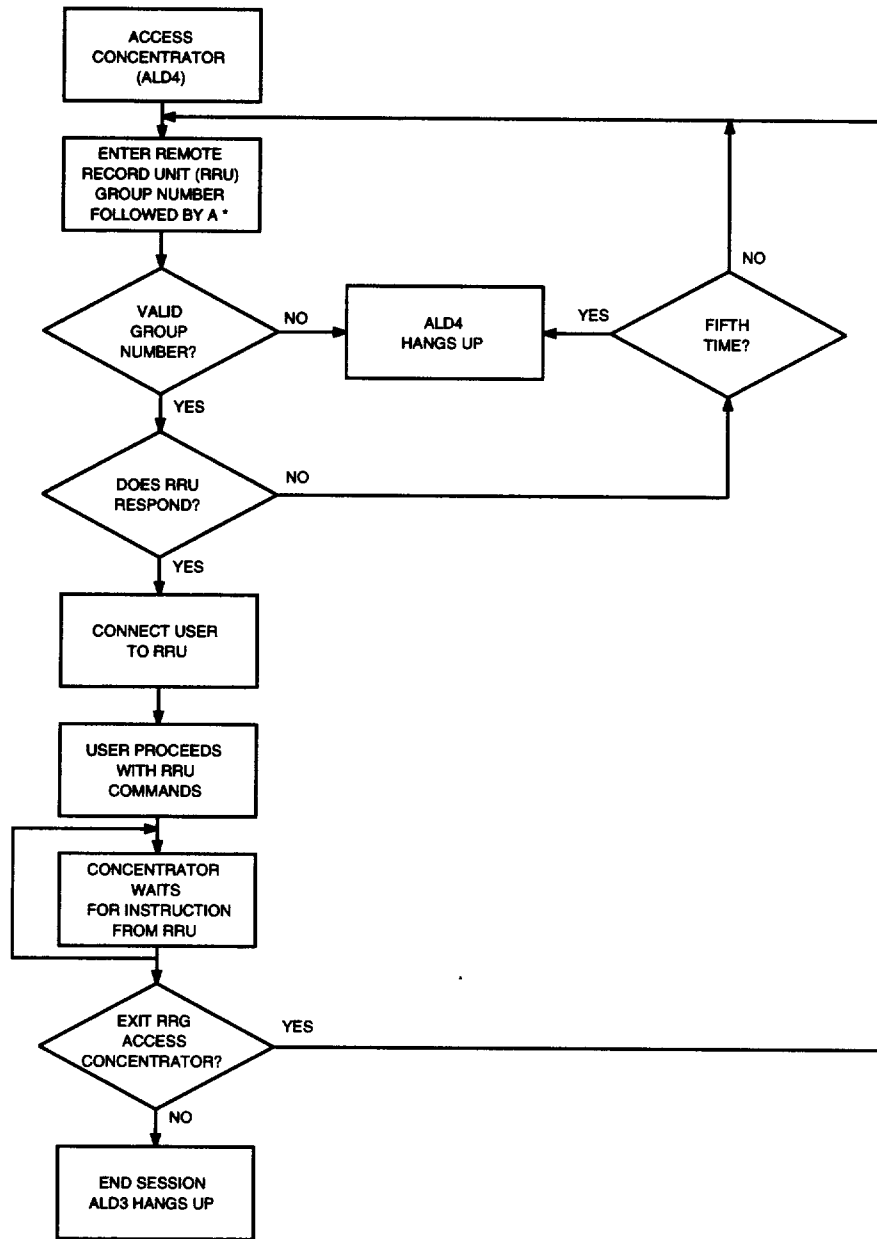

Figure 7. Remote Record Concentrator User Flowchart
10.01 The ALD4 performs two functions: the Group Select Function and the Exit ALD3 - Access Concentrator function. Figure 7 is a users' flowchart for accessing the Remote Record Concentrator as well as execution of system functions. The following is a description of ALD4 System Functions.